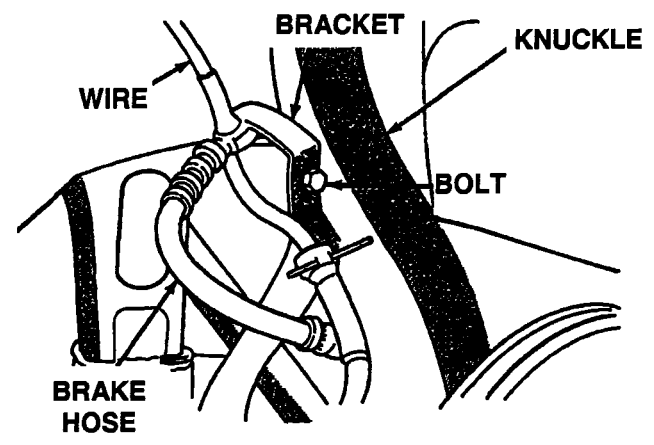

Figure 4
10. Remove the ABS wheel speed sensor wire routing bracket from the steering knuckle, if equipped (Figure 4).
32. Install the ABS wheel speed sensor wire routing bracket (Figure 4).